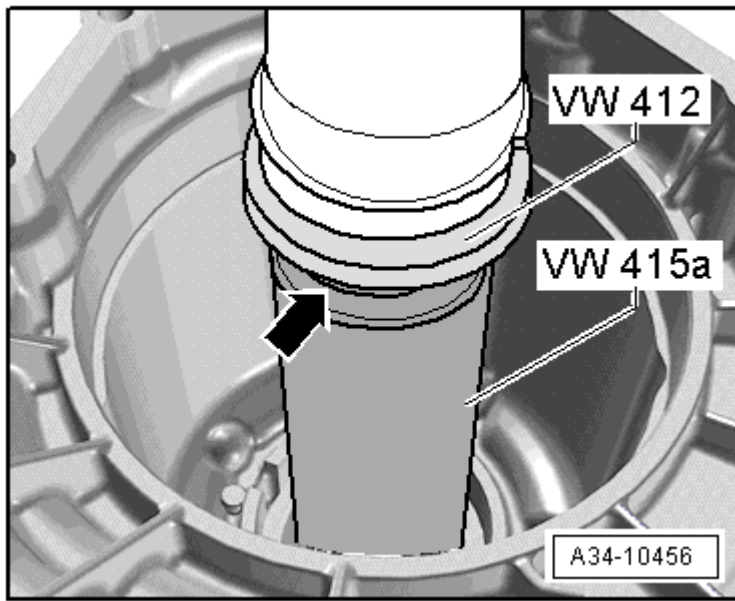

Fig. 51: Removing Flange Shaft Ball Bearing And Spacer Sleeve
- Installing, refer to **Fig. 51**